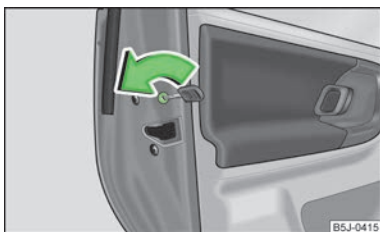

Fig. 10
- Use the vehicle key to turn the slit in the rear door in the direction of the arrow » Fig. 10.